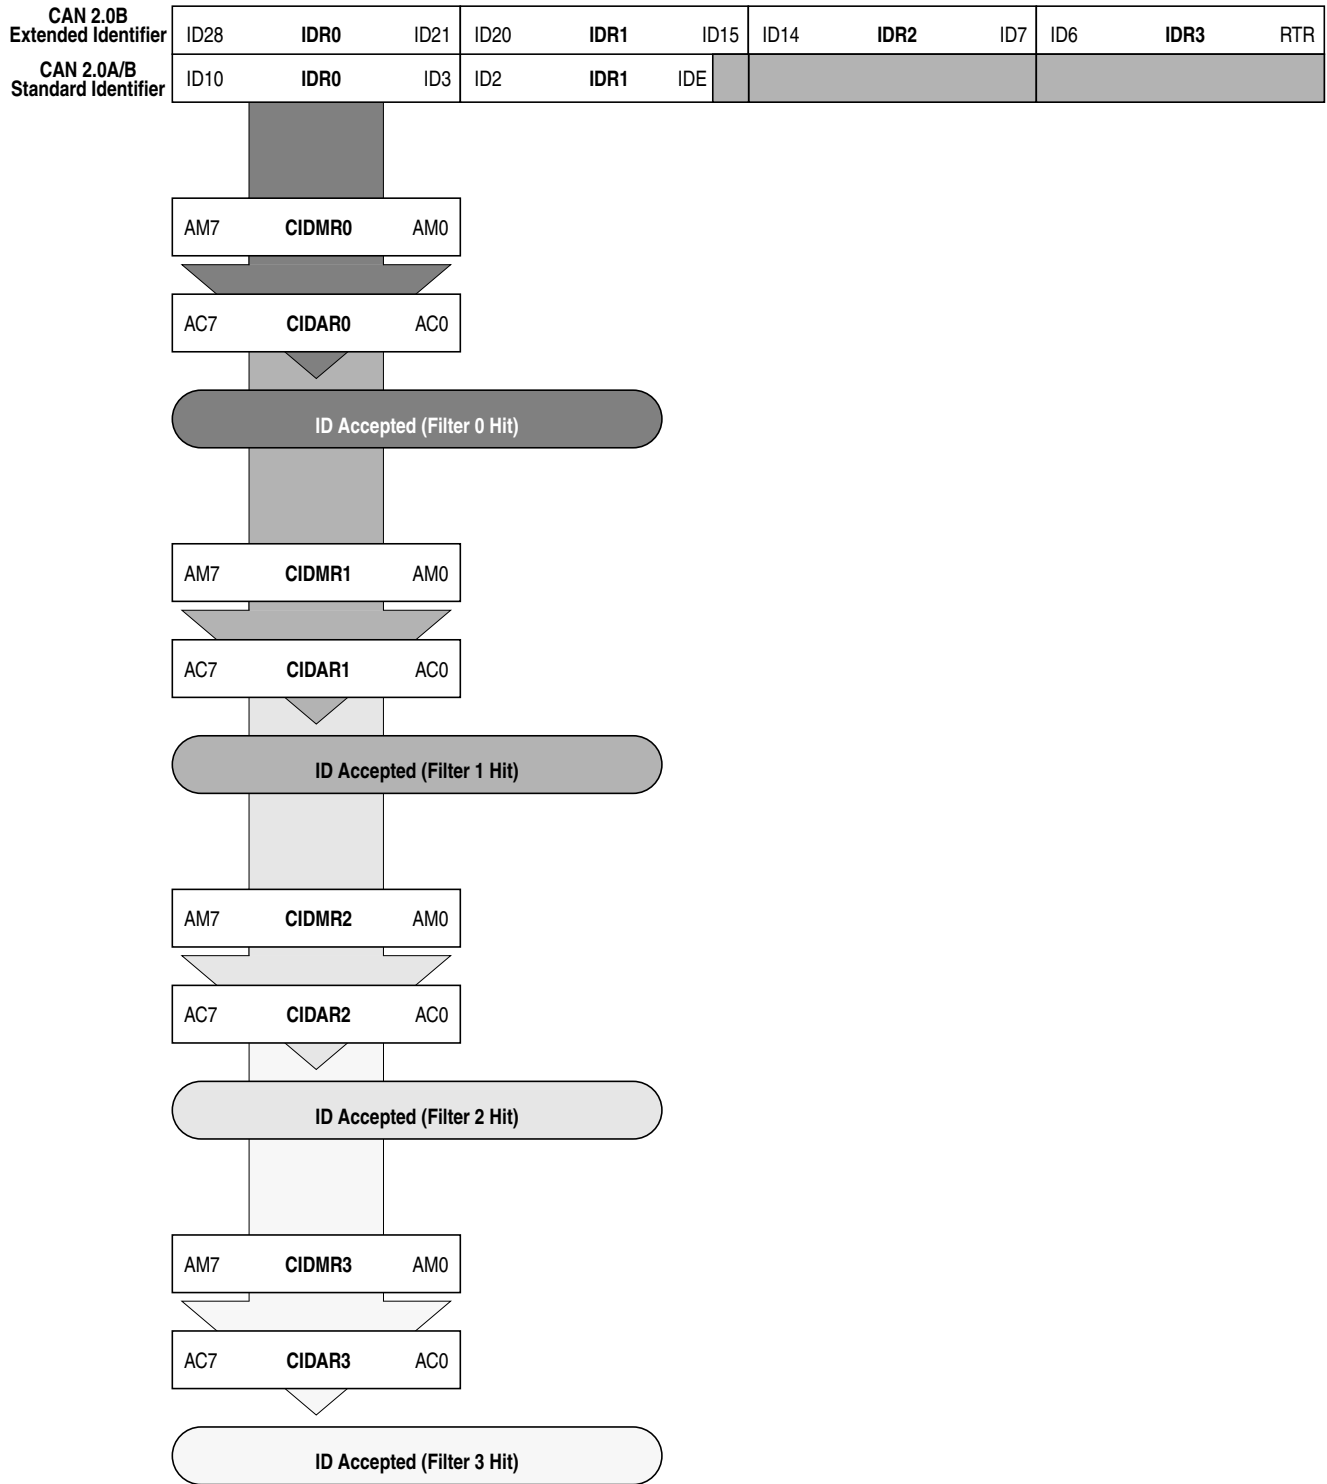

Figure 11-40. 8-bit Maskable Identifier Acceptance Filters
- Eight identifier acceptance filters, each to be applied to the first 8 bits of the identifier. This mode implements eight independent filters for the first 8 bits of a CAN 2.0A/B compliant standard identifier or a CAN 2.0B compliant extended identifier. Figure 11-40 shows how the first 32-bit filter bank (CANIDAR0–CANIDAR3, CANIDMR0–CANIDMR3) produces filter 0 to 3 hits. Similarly, the second filter bank (CANIDAR4–CANIDAR7, CANIDMR4–CANIDMR7) produces filter 4 to 7 hits.